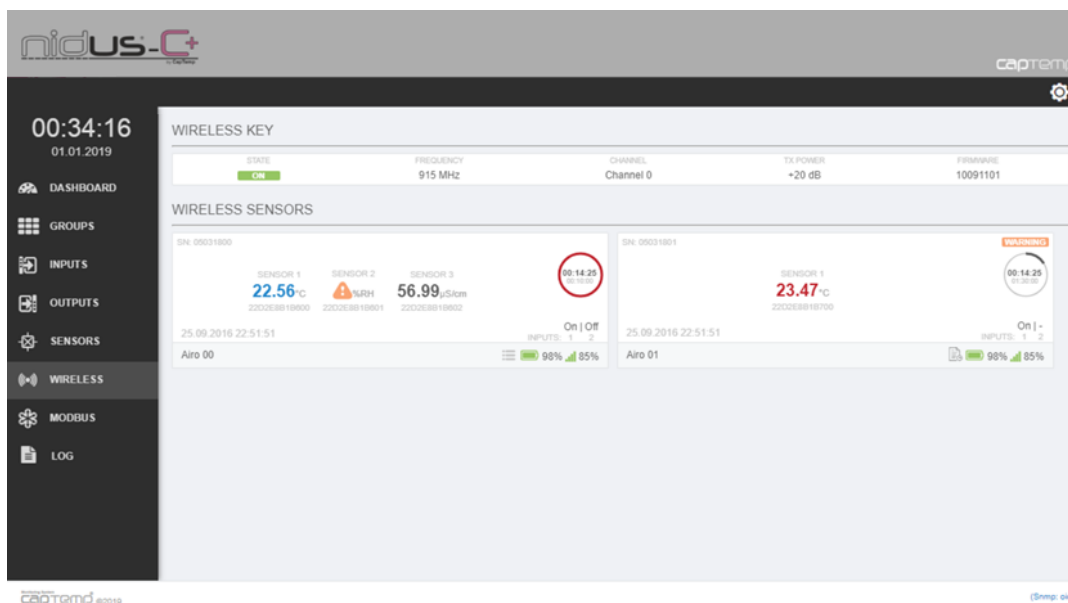

Figure 39 - Nidus main page: "Wireless" tab
2. To see the *Airo* values, go to the “Wireless” tab (Figure 39)